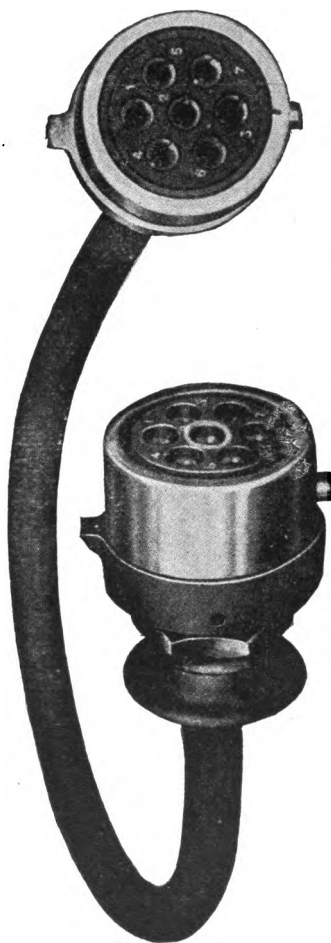

Fig. 496. Train Cable Jumper.
33. THE TRAIN CABLE JUMPER (Fig. 496) is used for connecting the train cables on adjacent cars. It consists of a short length of seven-conductor cable, with iron heads or plugs attached to the ends, each containing seven insulated contacts, one being secured to each conductor. The jumper heads fit into the coupler sockets on adjoining cars, and connect together their train cables.